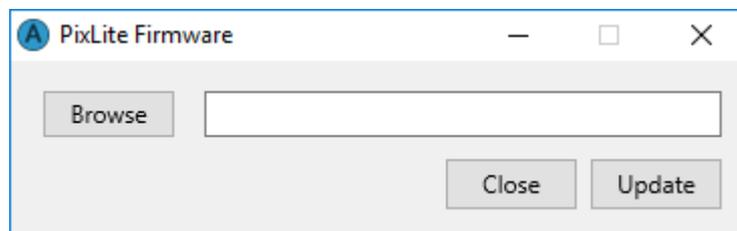

Figure 13
2. A configuration window will appear. Click on the “Misc” tab and then locate the “Upgrade Firmware” button and click on it. A “firmware update” window will appear (as shown in Figure 13).
4. Using the Assistant, click search in the main window and you should see the controller appear with “bootloader” in the firmware column. Double clicking on it will bring up the file browse window as shown in Figure 13.